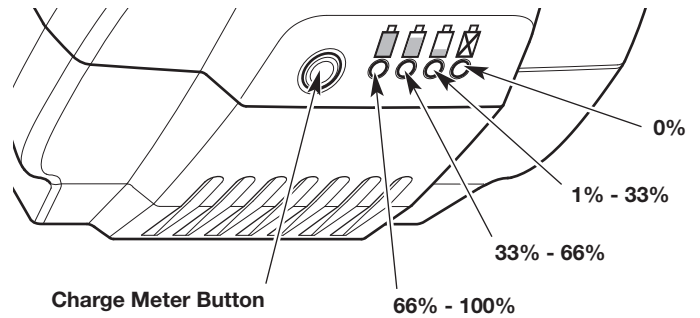

Fig. 11
1. Press the charge meter button (Fig. 11).
2. One or more of the charge meter lights should illuminate (Fig. 11). The number and color of the lights will indicate the current battery charge level: